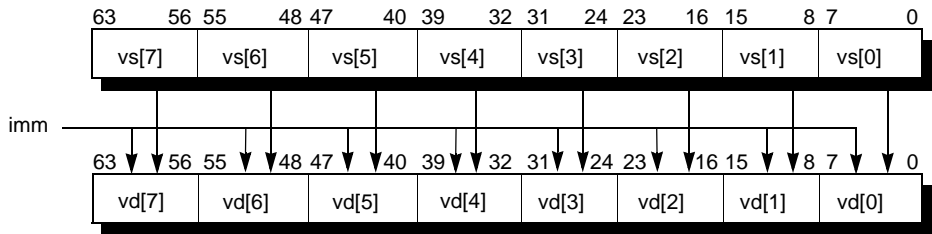

Figure 19-3 Vector-Immediate Operation
- **Vector-Immediate:** Each element of source vector *vs* is operated against an immediate value to produce destination vector *vd*, as shown in Figure 19-3.